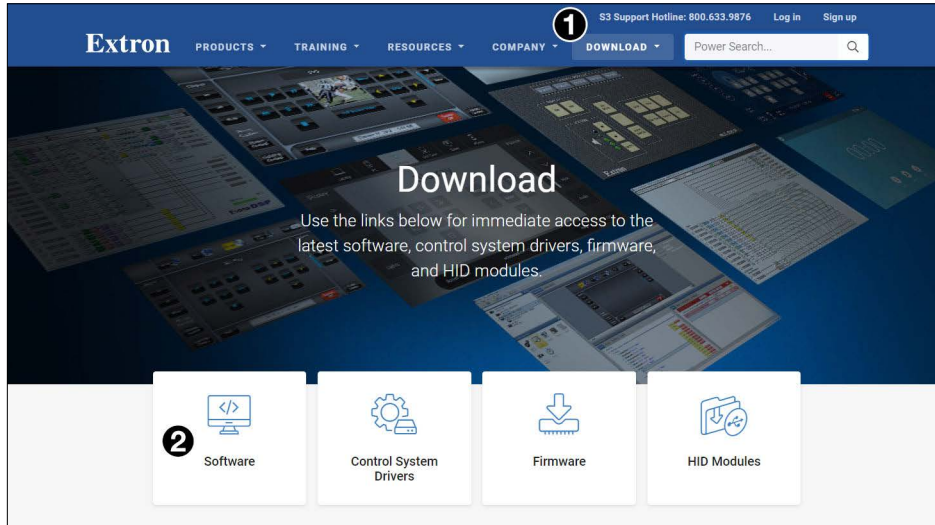

Figure 6. Downloading Software
2. Click **Download** (see figure 6, ❶).
3. Click **Software** (❷).